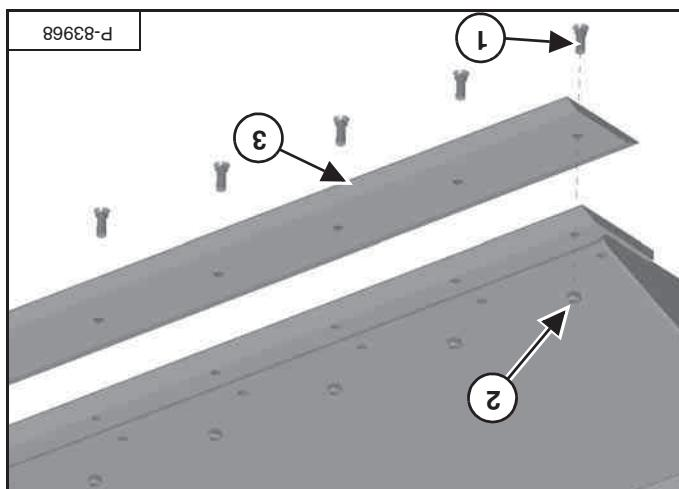

Figure 98
Remove the bolts (item 1) and nuts (item 2) from the cutting edge (item 3) [Figure 98].